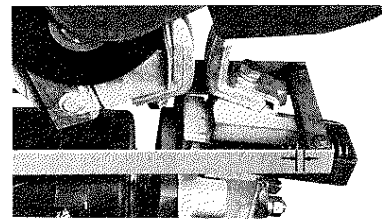

Figure 4
1. With all power removed, check that the mechanical interlock allows the contact arm (21) of either contactor to reach its limit of travel; either completely closed or completely open without binding.
2. Hold the contact arm of the left contactor fully closed and push closed the contact arm of the right contactor until stopped by the mechanical interlock. Check that there is a gap of at least 1/32" but not more than 1/16" between the inside edge of the stop bracket (42) and the back surface of the auxiliary arm (12) (Fig. 4).